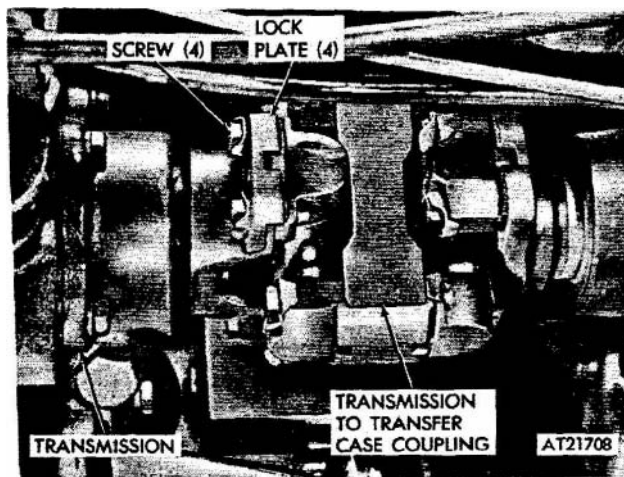

Figure 2-53. Disconnect transmission output shaft at coupling.
(11) Remove transmission output flange from coupling assembly by removing four screws and lockplates (fig 2-53).
(25) Attach selector control rod to lever. Adjust clevis until clevis pin can be inserted freely. Secure clevis pin with clip and tighten jam nut.
(26) Install shift control rod to lever. Adjust clevis until clevis pin can be inserted freely. Secure clevis pin with washer and cotter pin. Tighten jam nut against clevis.
(27) Secure transmission output flange to coupling assembly with four screws and lockplates (fig 2-53).